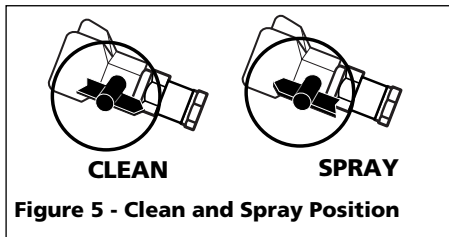

Figure 5 - Clean and Spray Position
- Rotate the tip to the clean position (See Figure 5).
3. Rotate the tip back to the spray position and continue spraying (See Fig. 5).